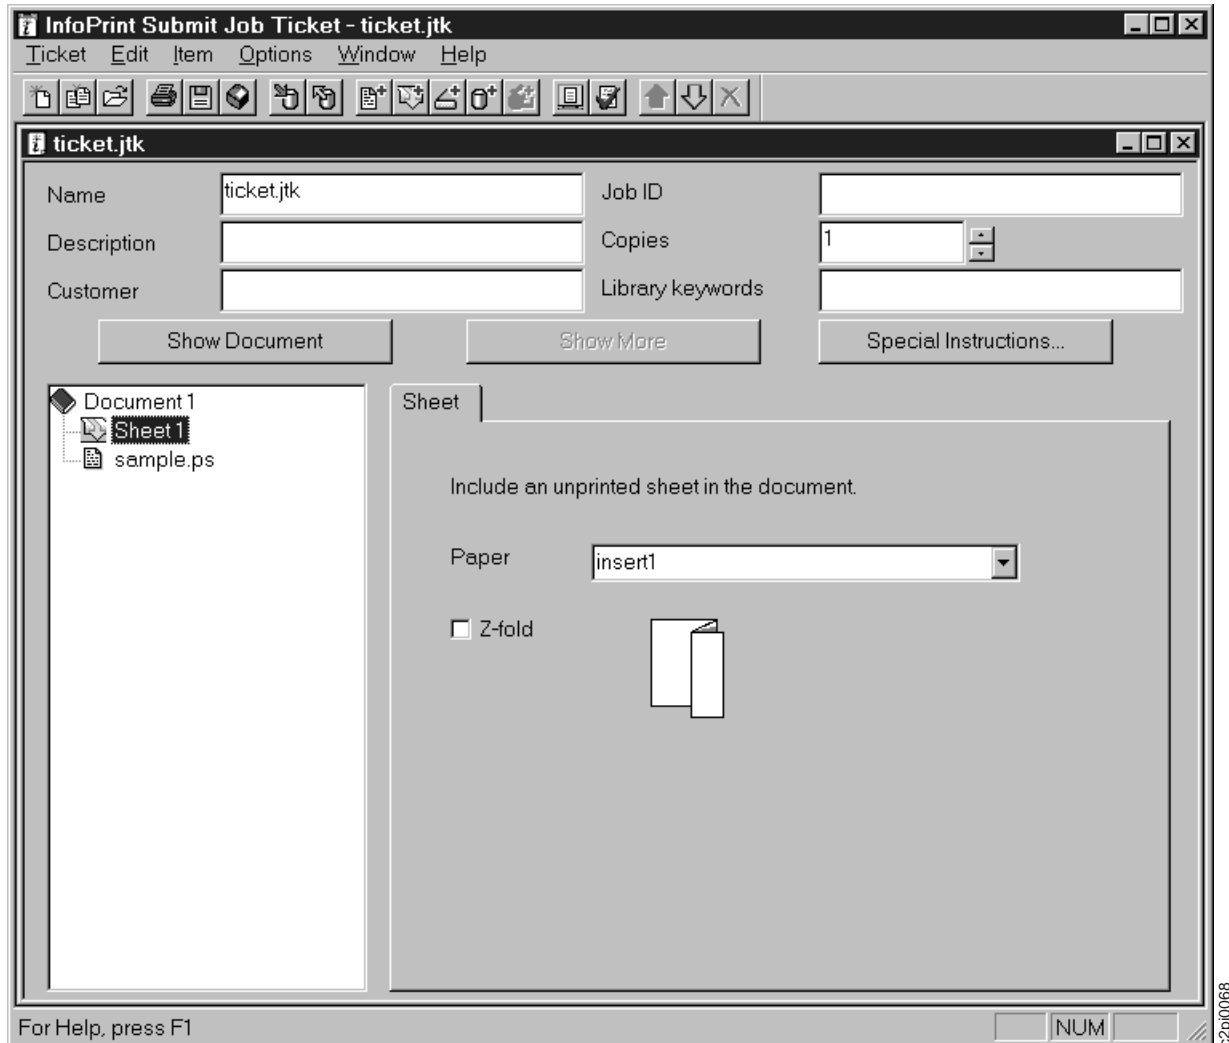

Figure 34. Edge-Stitched Document with Front Cover - Sheet
7. From the document, select the “Sheet 1”. You see the Sheet tab (Figure 34).